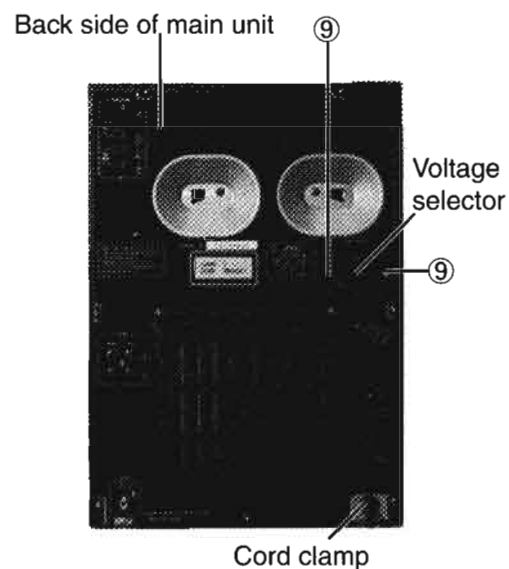

Fig. 8
■ Removal of the Power Transformer Assembly (See Figs 8, 9)
4. Remove the two screws ⑨ fastening the voltage select switch to the back side of the main unit.(See Fig.8)